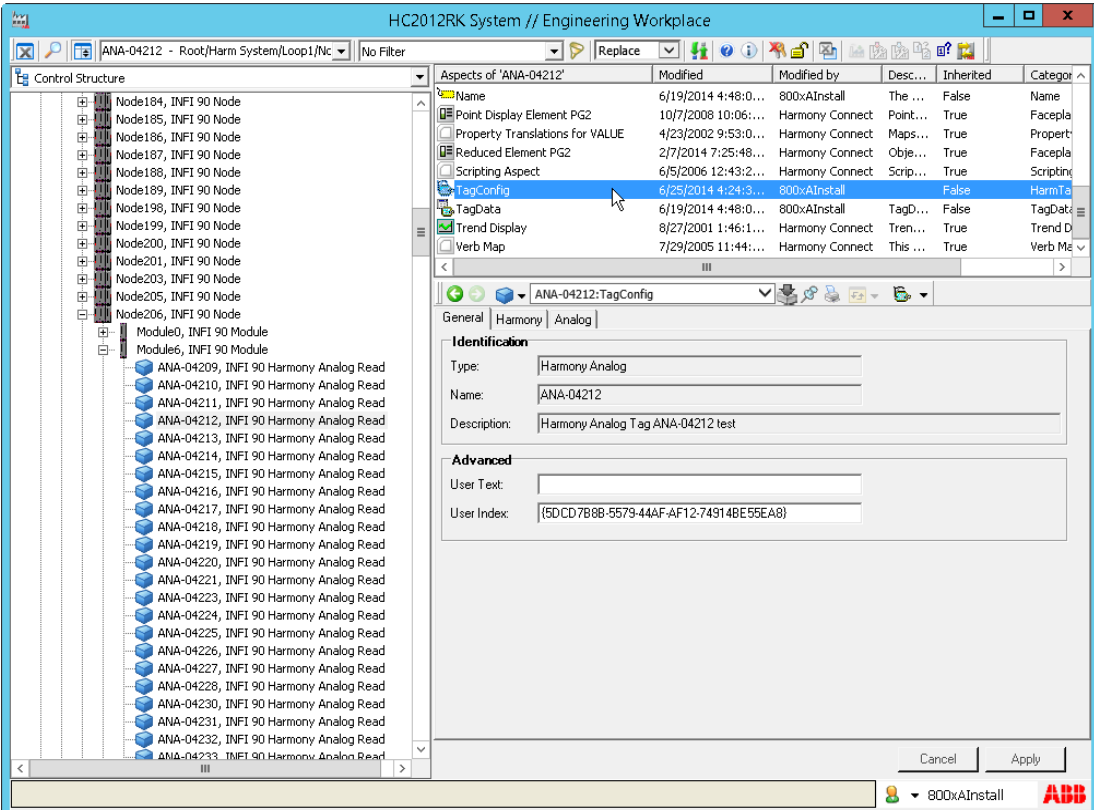

Figure 42. TagConfig Aspect
2. From the Engineering Workplace, drag the desired Harmony **TagConfig** Aspect and drop it into cell **A1** of the Excel worksheet named **Sheet1**. This will begin the process of selecting the desired Harmony Tag configuration attributes and formatting the column headers of the Excel worksheet as shown in Figure 42.